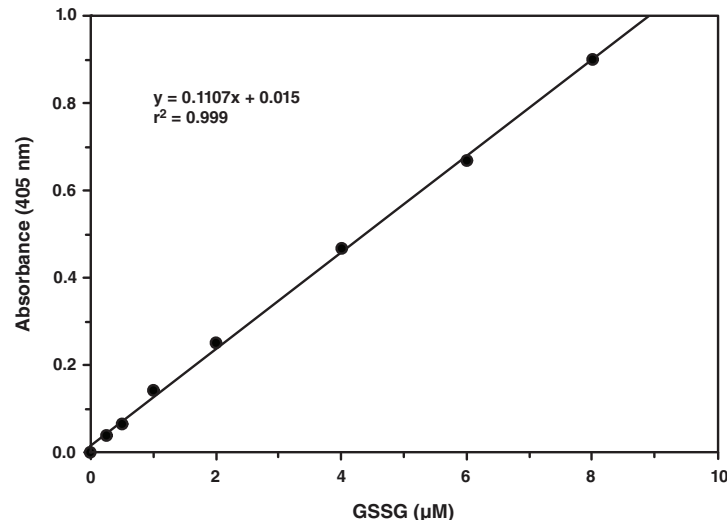

Figure 3. Plot of corrected absorbance at 25 minutes versus GSSG concentration (µM)
3. Plot the corrected absorbance values (from step 2 above) of each standard as a function of the concentration of GSSG or Total GSH of Table 1 (see Figure 3).